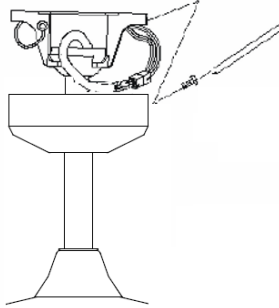

Fig. 8
- Cover the mounting bracket with the canopy. Ensure all electrical wiring is tucked inside the canopy and that the wires are not damaged during this step. Secure the canopy to the hanger bracket using the screws provided. Fig. 8